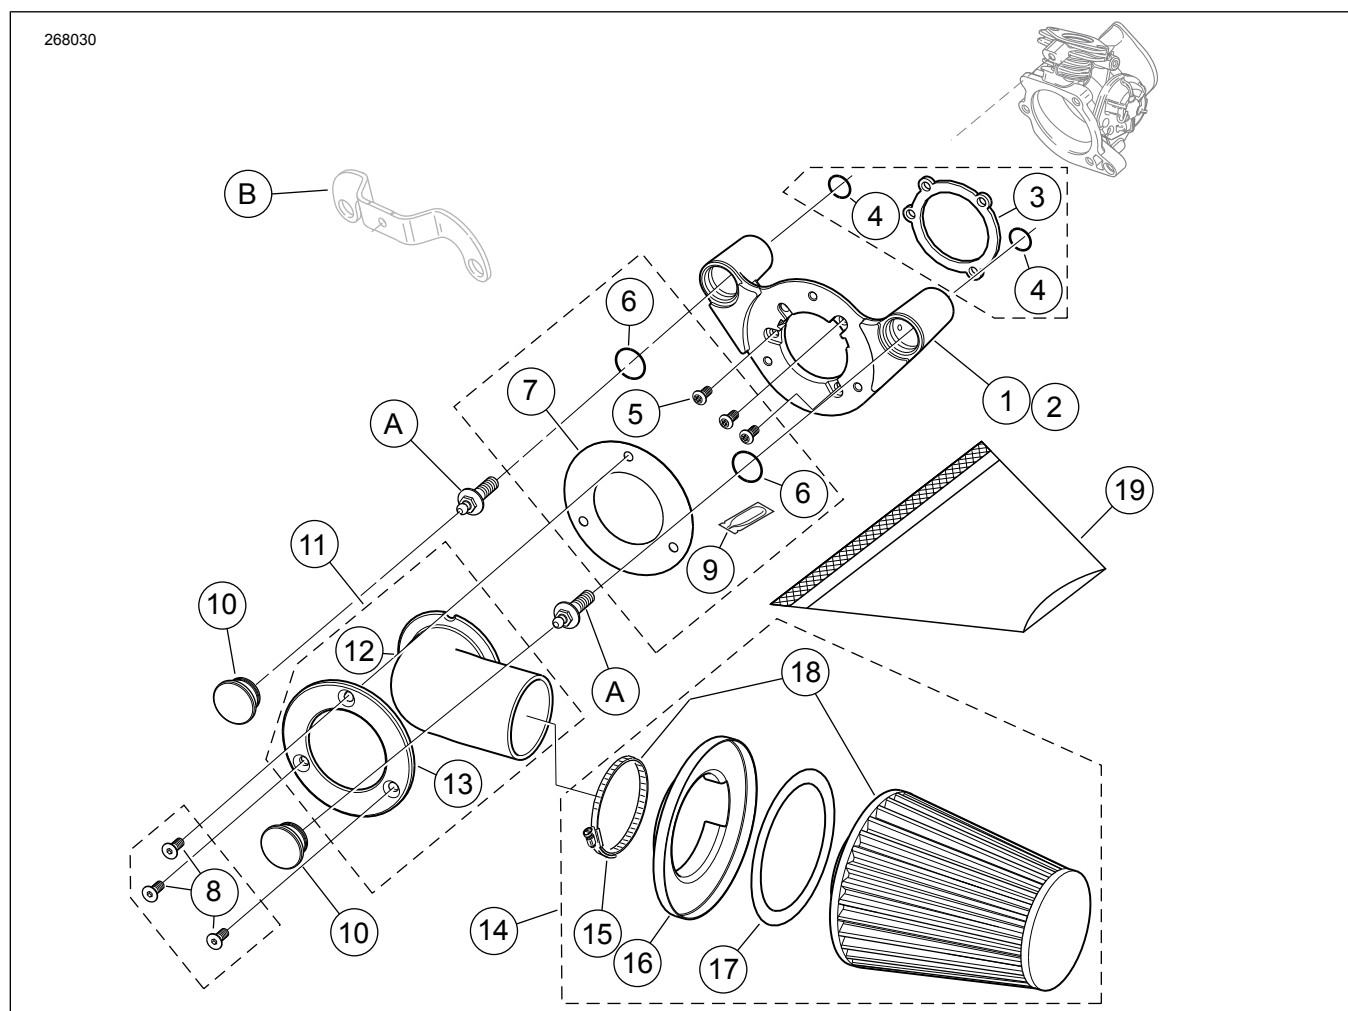

Figure 1. Service Parts: Air Cleaner Kit
See Figure 1 and Table 1.
1. Remove the air cleaner backplate following the instructions in the service manual. Retain the two breather screws (A) removed from the backplate (see Figure 1 ). The remaining parts can be discarded.
2. See Figure 1. Remove and discard induction module bracket (B).
1. See Figure 1. Install the **new** O-rings (4) in the grooves around the breather screw holes on the carburetor or induction module side of the backplate (1 or 2).
2. Remove the backing from the adhesive side of the backplate gasket (3). Carefully align the holes and install the gasket on the carburetor or induction module side of the backplate.
3. Insert the breather screws (removed in Step 2) through the backplate. Apply a small amount of threadlocker (9) to the breather screw threads and the mating tapped holes in the cylinder head, then install the screws into the cylinder head. DO NOT tighten completely at this time.
4. Obtain the three backplate mounting screws (5) from the kit, and apply a small amount of threadlocker to the screw threads. Install the screws all the way through the backplate and gasket until the screw threads are captured in the carburetor or induction module. DO NOT tighten completely at this time.